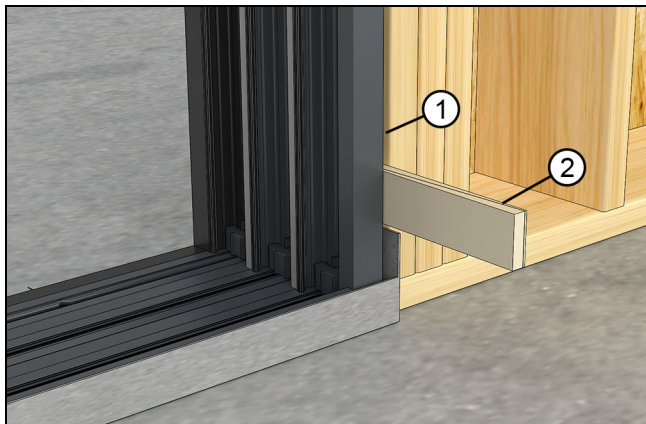

Figure 54 Center the frame and shim at stationary sill side
5. Center the frame in the rough opening and shim one corner at the bottom. See Figure 54.